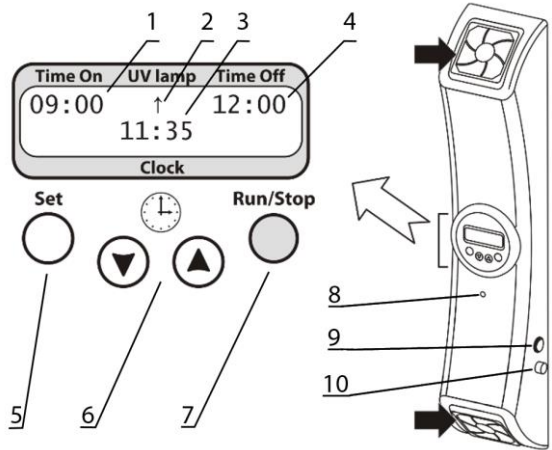

Figure 5. UVR-Mi control panel and overview
5.2.1. Plug the power cord to a grounded mains socket. Switch on the power switch (fig. 5/9) on the side to the right.
- Air flow recirculation start time in the automatic mode - Time On (fig. 5/1);
- Air flow recirculation end time in the automatic mode - Time Off (fig. 5/4);
- UV-recirculator operating indicator - UV lamp (fig. 5/2);
- Real time clock (fig. 5/3).
5.2.3. **Parameter setting.** Hold the **Set** key (fig. 5/5) pressed for more than 6 seconds to activate parameter setting mode.
5.2.3.1 Change the currently flashing parameter using the **▼** and **▲** keys (fig. 5/6). Pressing the key down longer than 2 seconds makes the values change quicker.
5.2.4.1 **Manual mode.** Press the **Run/Stop** key (fig. 5/7) to start or stop recirculation. While recirculator is working, symbol “↑” indication is shown on the display (fig. 5/2).
5.2.4.2 **Automatic mode.** Set recirculation start (**Time On**, fig. 5/1) and end (**Time Off**, fig. 5/4) times, as described in **5.2.3**. Unit saves the parameters after unplugging. On set start time, a powered unit starts recirculator, if it was not started already. On reaching the end time, unit turns off the recirculator.
5.2.7. **End of lamp lifetime and lamp failure.** At the end of lamp lifetime (9000 h) or in case of UV lamp failure, unit terminates operation and does not resume until lamps are replaced. Display shows “END OF UV LAMP LIFETIME” or “ERROR UV LAMP FAILURE” messages, respectively. Additionally, check the indicator (fig. 5/8) to see if the lamps are working. To replace the lamps, see **8.6**.